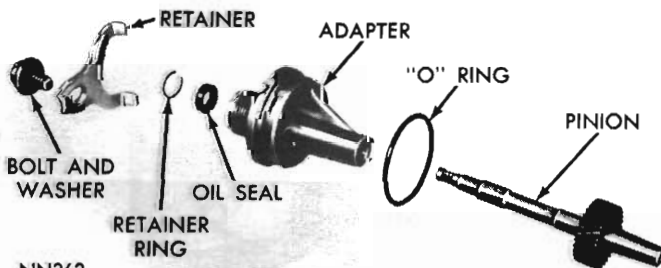
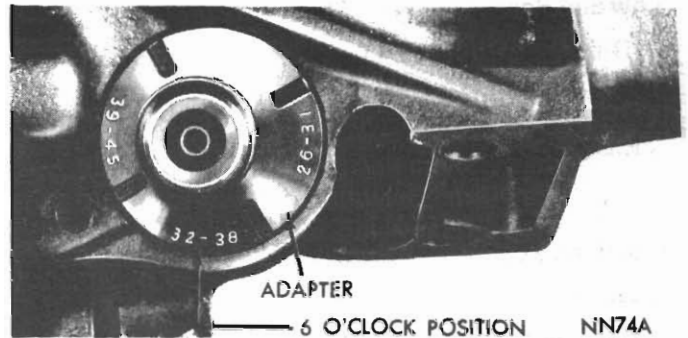
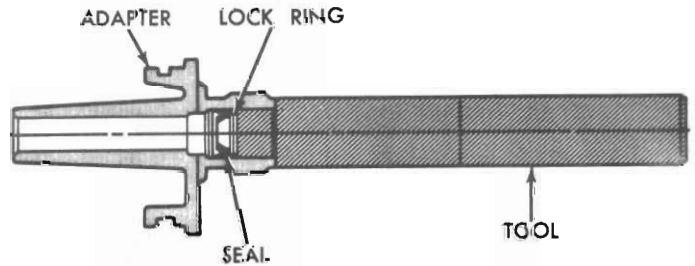

Fig. 32 - Speedometer drive—disassembled
Fig. 33 - Speedometer pinion and adapter installed (Retainer removed for view)
Fig. 34 - Installing speedometer pinion seal
(1) Remove bolt and retainer securing speedometer pinion adapter in the extension housing (Fig. 33).
(2) With cable housing connected, carefully work adapter and pinion out of the extension housing.
(3) If transmission fluid is found in cable housing, replace seal in the adapter (Fig. 32). Start seal and retainer ring in the adapter, then push them into adapter with Tool E21C45B until tool bottoms (Fig. 34).
(4) Note number of gear teeth and install speedometer pinion gear into adapter (Fig. 32).
(5) Rotate the speedometer pinion gear and adapter assembly so that the number on the adapter, corresponding to the number of teeth on the gear, is in the 6 o'clock position as the assembly is installed (Fig. 33).
(6) Install retainer and bolt, with retainer tangs in adapter positioning slots. Tap adapter firmly into the extension housing and tighten retainer bolt to 100 lbs. in.
(1) Mark parts for reassembly then disconnect propeller shaft at rear universal joint. Carefully pull shaft assembly out of the extension housing.
(2) Remove speedometer pinion and adapter assembly (Fig. 33). Drain approximately two quarts of fluid from the transmission.
(3) Remove bolts securing extension housing to the crossmember. Raise transmission slightly with service jack, then remove centre crossmember and support assembly.
(4) Remove extension housing to transmission bolts.